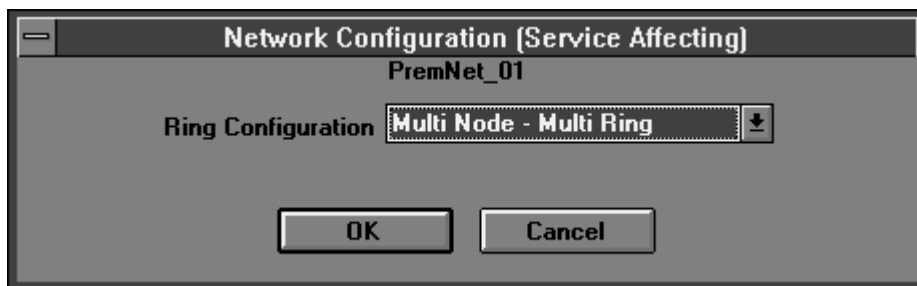

Figure 2-9. Network Configuration (Service Affecting)
2. Select Configure from the Tools menu or click on the Configure icon. The Network Configuration (Service Affecting) box appears (refer to Figure 2-9).